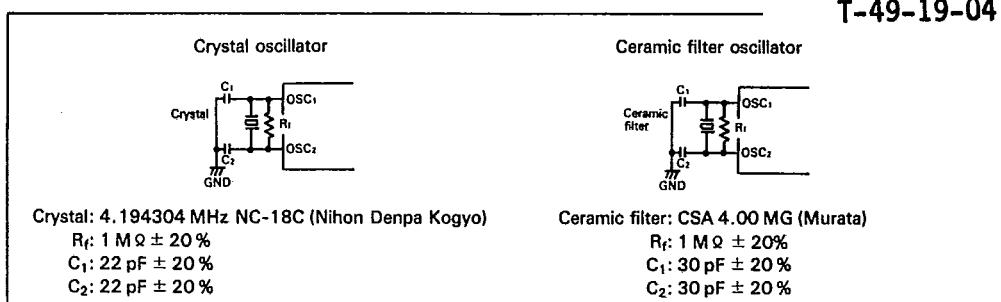

Figure 36. Oscillator Circuit
1. Oscillator stabilization time is the time until the oscillator stabilizes after VCC reaches its minimum allowable voltage (3.5 V) after power-on, or after RESET goes high. At power-on or stop mode release, RESET must be kept high for at least tRC. Since tRC depends on the crystal or ceramic filter's circuit constant and stray capacitance, please get the manufacturer's advice when designing the RESET circuit. (See figure 36)